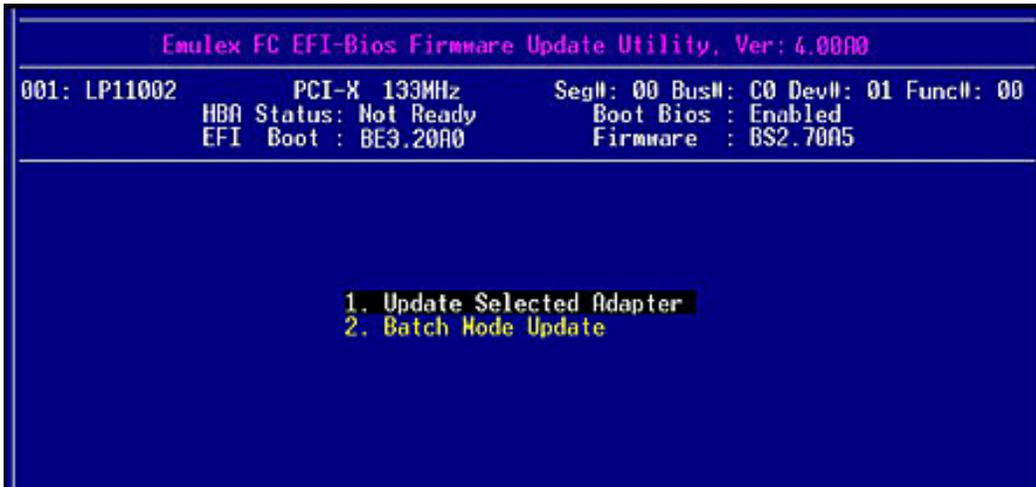

Figure 59: Update Selected Adapter
1. On the main EFI utility menu select **2. Firmware Update** and press **<Enter>**. The Firmware Update Utility menu is displayed (Figure 59).